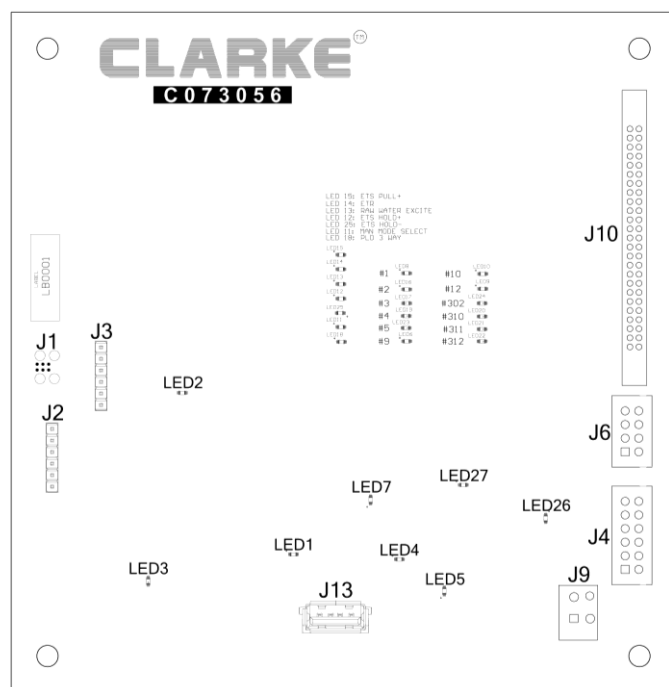

Figure 2-6
2.12.1. Control Board Connections (Front) *Figure 2-6*
### 2.12.2. Control Board LEDs *Figure 2-6*